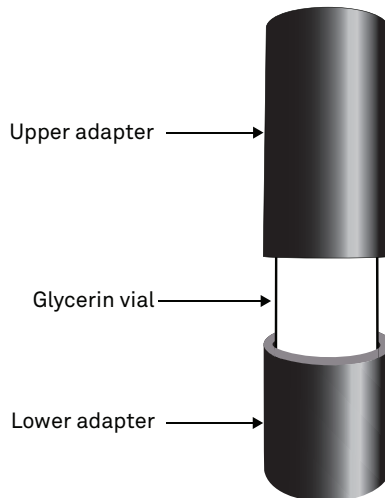

Figure 45 Upper adapter on top of Glycerin vial
4. Place the upper adapter on top of the glycerin vial (Figure 45).